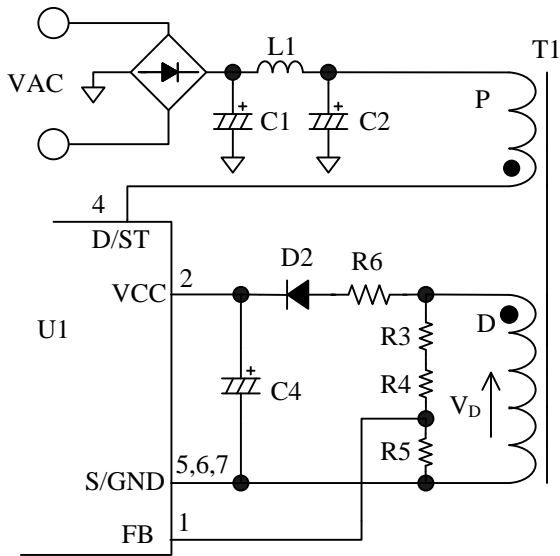
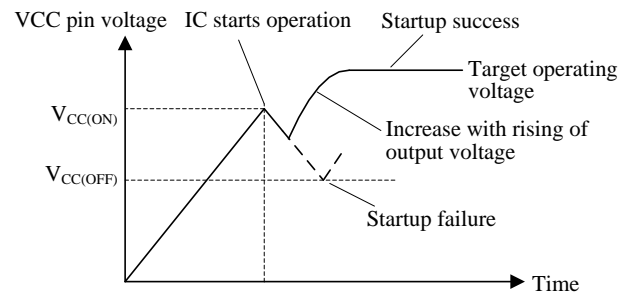

Figure 10-1 VCC pin peripheral circuit
Figure 10-3 VCC pin voltage during startup period
Figure 10-1 shows the VCC pin peripheral circuit.
Figure 10-3 shows VCC voltage behavior during the startup period. When VCC pin voltage increases to  $V_{CC(ON)} = 15.0\text{ V}$  at startup, the IC starts the operation. Then circuit current increases and VCC pin voltage decreases. Since the Operation Stop Voltage  $V_{CC(OFF)} = 8.1\text{ V}$  is low, the auxiliary winding voltage reaches to setting value before VCC pin voltage decreases to  $V_{CC(OFF)}$ . Thus control circuit continues the operation. The voltage from the auxiliary winding D in Figure 10-1 becomes a power source to the control circuit in operation. The approximate value of auxiliary winding voltage is about 12 V to 16 V, taking account of the winding turns of D winding so that VCC pin voltage satisfies Equation (2) within the specification of input and output voltage variation of power supply.
When VCC pin voltage reaches to  $V_{CC(OFF)}$  and a startup failure occurs as shown in Figure 10-3, increase the C4 value. Since the larger capacitance causes the longer startup time of IC, it is necessary to check and adjust the startup process based on actual operation in the application.